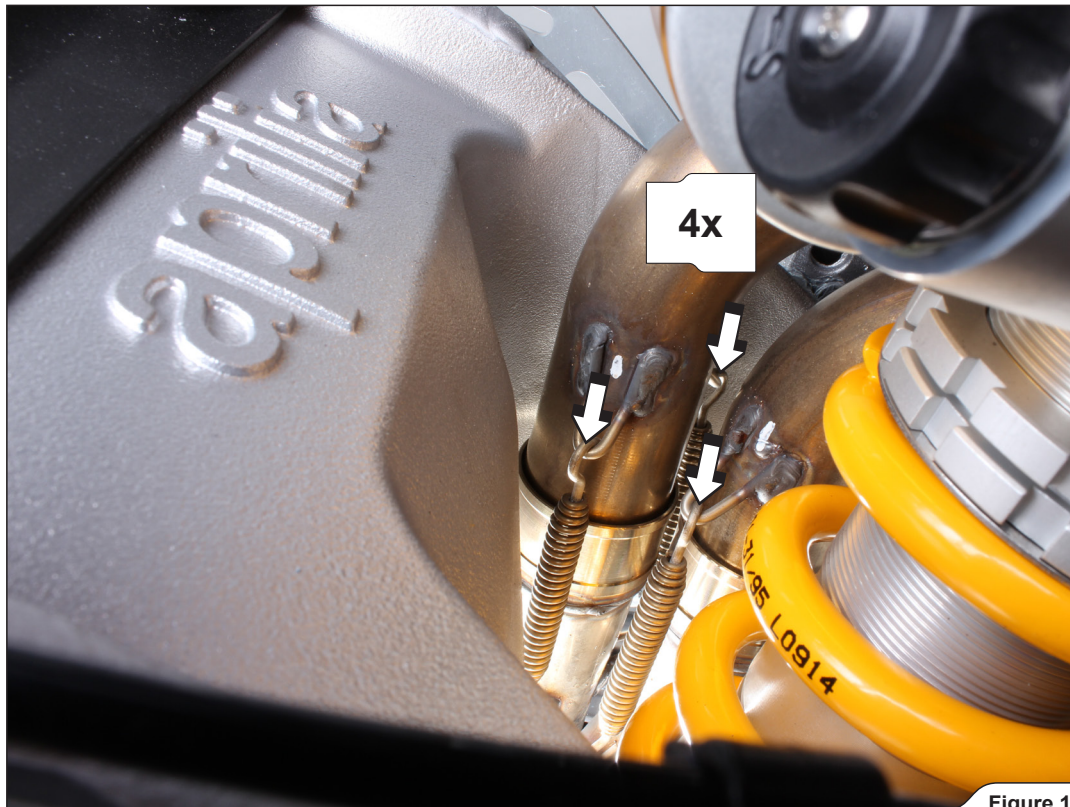

Figure 13
8. Unhook the marked springs (Figure 13).